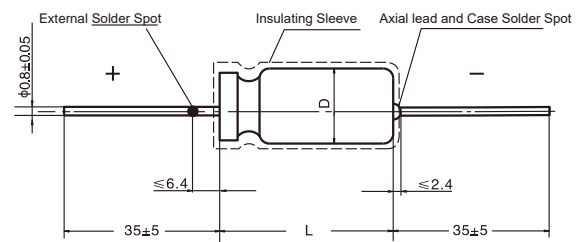

Figure 1
5. Outline structure and installation dimensions: see Figure 1 and Table 1